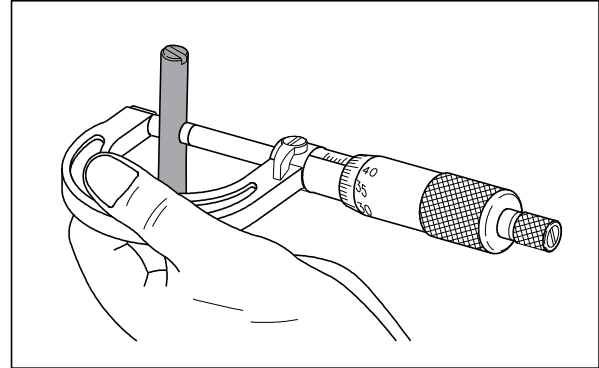

Fig. 3.64
- Inspect the shaft valve rocker arm for any damage. Measure the outer diameter (OD) of shaft valve rocker arm. If the OD is less than the service limit, replace the shaft. (Fig. 3.64) Repeat with other rocker arm shafts.